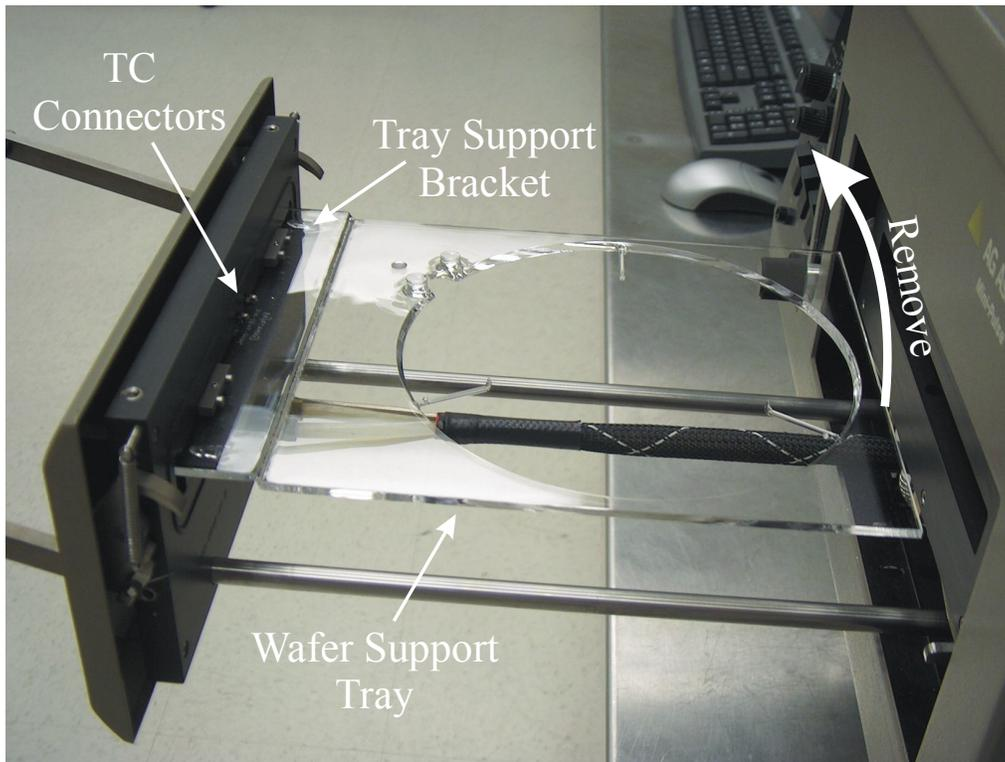

Figure 10-7: *Wafer Support Tray Removal and Installation*
Step 2. If a thermocouple wafer or cantilever thermocouple is installed, carefully disconnect it from the TC input connectors on the door, and remove it from the wafer support tray. See Figure 10-7.